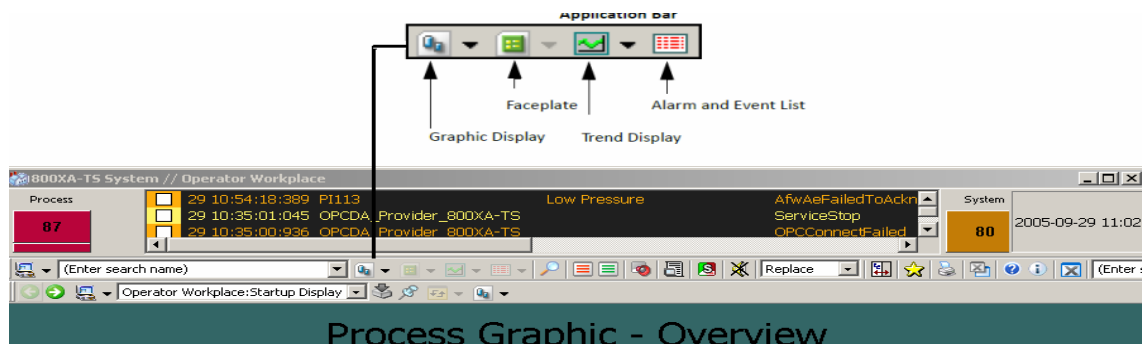

Figure 8. Default Shortcuts
Figure 8 shows the default shortcuts available in the Operator Workplace.
- By entering (or selecting) the object name in the Object Shortcut Tool, see Figure 8.